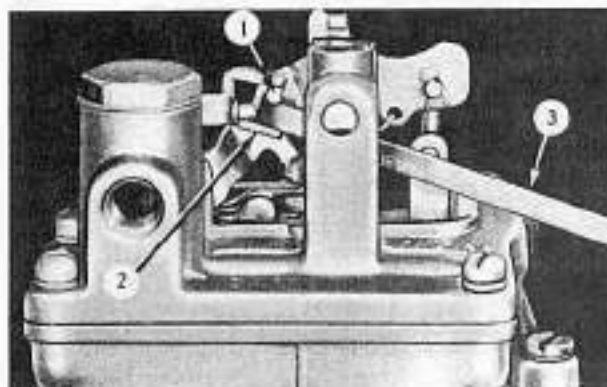

FIG. 409
After adjusting the top finger of the vacuum piston link, check the clearance between the bottom of the pump operating lever pin (1, Fig. 409) and the bottom finger of the vacuum piston link (2), using a $3/16''$ (4.763 mm.) gage (3) (Float Gage J-818-3). If an adjustment is necessary, using Adjusting Tool T-109-105, bend the lower finger of the vacuum piston link to obtain the proper clearance.